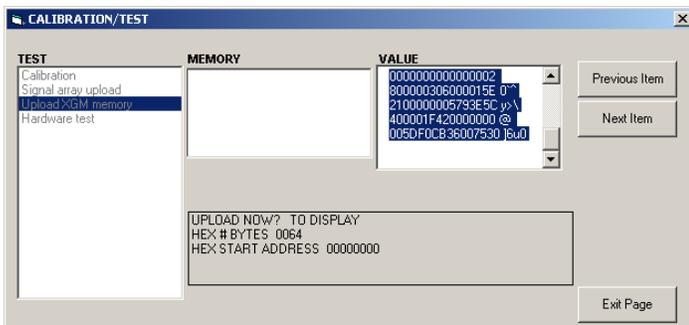

Figure 14: XGF868i memory Data displayed on PanaView
- If you double-click on *to display*, the right pane of the window appears similar to *Figure 14* below, and the data is available for immediate evaluation. Click [exit page] to close the window and return to the *calibration/test* menu.